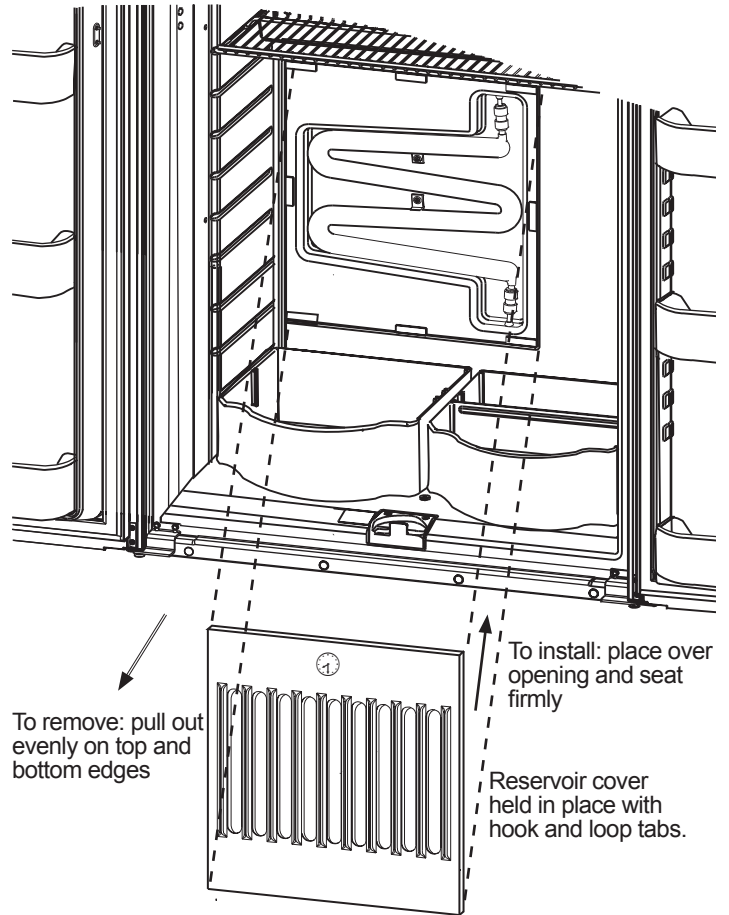

Figure 11-8. —Cover, reservoir compartment.
5. Remove the reservoir compartment cover. See Figure 11-8, ③.